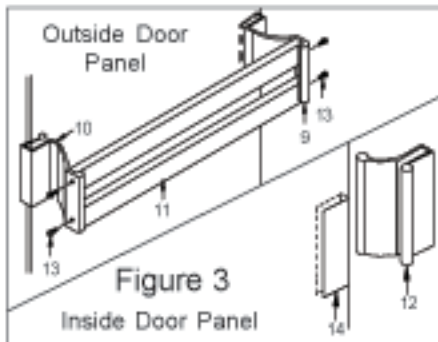

Figure 3
11. Set handle vinyl (14) in place over edges of outside glass panel (17) with bottom of vinyl in line with bottom of bumper (4). Tap towel bar brackets (9 & 10) in place (See Figure 3). Bracket with pull (10) should be to jamb side of slider opposite shower head. Assemble towel bars (11) to brackets using #6 x 3/8" SMS (13).
12. Set handle (12) in vinyl in place over edge of inside glass panel (16) with bottom of vinyl in line with bottom of bumper on edge facing the wall jamb. Tap inside door pull (12) in place.